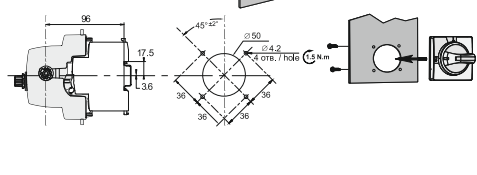

Рисунок 12 – Функция Блокировка / Figure 12 – Interlock function
– Interlock. The Interlock function allows users to secure the disengaged and engaged positions of the rotary handle to prevent unauthorized activation or deactivation of the unit. To activate the Interlock, pull the specialized white flag on the handle to engage the on/off interlock, and then mount the padlock (see figure 12);